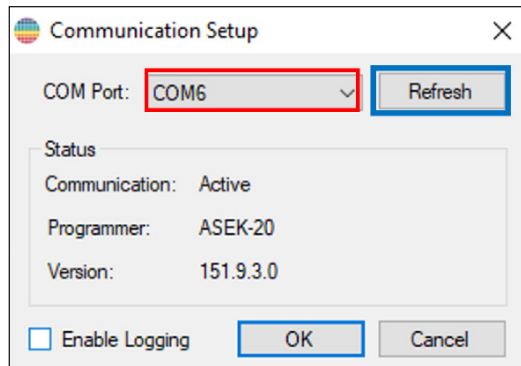

Figure 13: Communication Setup dialog box
To connect the ASEK-20, click “Setup” → “Communication Setup”. The dialog box in Figure 13 will appear. Click the correct COM# in the pulldown menu next to COM Port. If the COM port is unknown, do the following:
- Click “Refresh” in the “Communication Setup” dialog window as highlighted in blue in Figure 13.